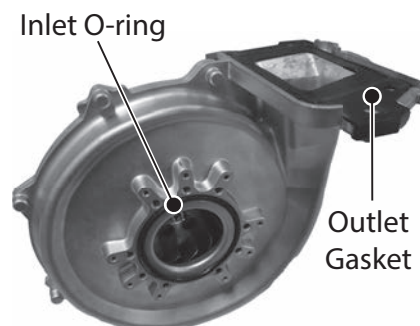

Figure 108 - Install inlet O-ring and outlet gasket to new fan assembly
- 21** Locate the new fan outlet gasket, and inlet O-ring provided in kit. Install outlet gasket and inlet O-ring to fan (see Figure 108). Once installed, make sure the outlet gasket and inlet O-ring are fully seated and not damaged.